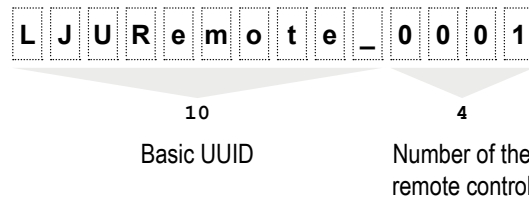

Fig. 30: Basic UUID and remote control number using LJU as an example
- Enter exactly 10 characters (Fig. 30). Otherwise, an exclamation mark appears in the line indicating which characters and how many of them may be used. On the other hand, the number of missing characters in the display field of the Basic UUID is replaced with question marks.